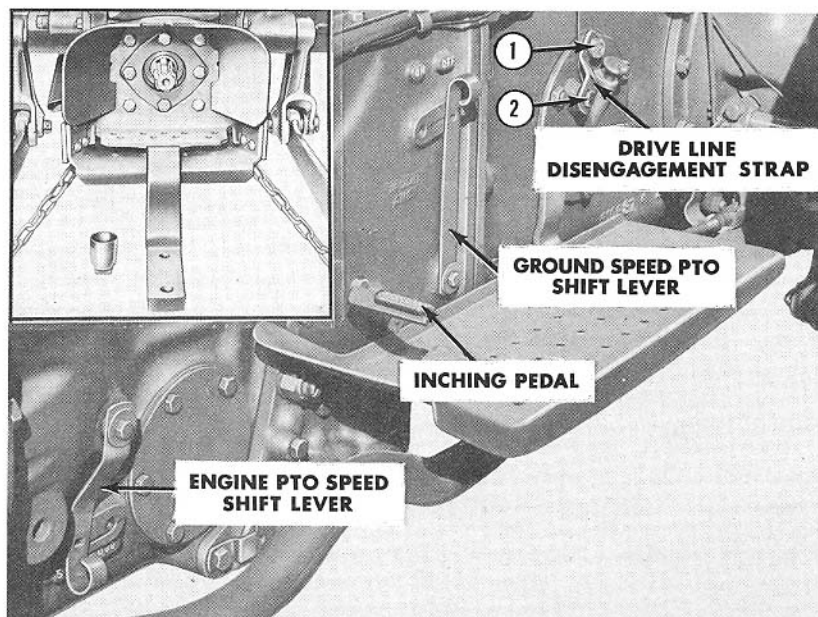

Figure 16
To disengage the transmission, disconnect the traction coupling as follows: Remove the nut (1), Figure 16, and strap; turn the strap over and reinstall on the shaft (2), then rotate the shaft approximately 60° to the rear. Rock the tractor to make sure the transmission is disengaged, and then replace the strap and reinstall the nut to assure that the traction coupling remains disengaged. **DO NOT TOW THE TRACTOR OVER 20 MPH.**
Power Take-Off Shaft: Your Ford Tractor is equipped with a standard P.T.O. shaft ($1\frac{3}{8}$ " diameter) in accordance with A.S.A.E. specifications for attaching P.T.O. driven equipment built to A.S.A.E. standards. A P.T.O. shield, see insert, Figure 16, is available as extra equipment from your Ford Tractor and Implement Dealer. This shield should be used as a safety precaution and serves as the supporting member for pull type implement drive line shields in all operations involving P.T.O. driven implements.
The ground speed P.T.O. is engaged by moving the ground speed P.T.O. shift lever, Figure 16, to the "ON" position, making certain that the P.T.O. control knob is in the "IN" position. The P.T.O. shaft will only turn when the tractor is in motion. Consequently, to ease into P.T.O. loads, it will be necessary to use the inching pedal. WHEN BACKING THE TRACTOR, THE GROUND SPEED LEVER MUST BE MOVED TO THE "OFF" POSITION. Failure to do this may result in serious damage to the implement being operated.